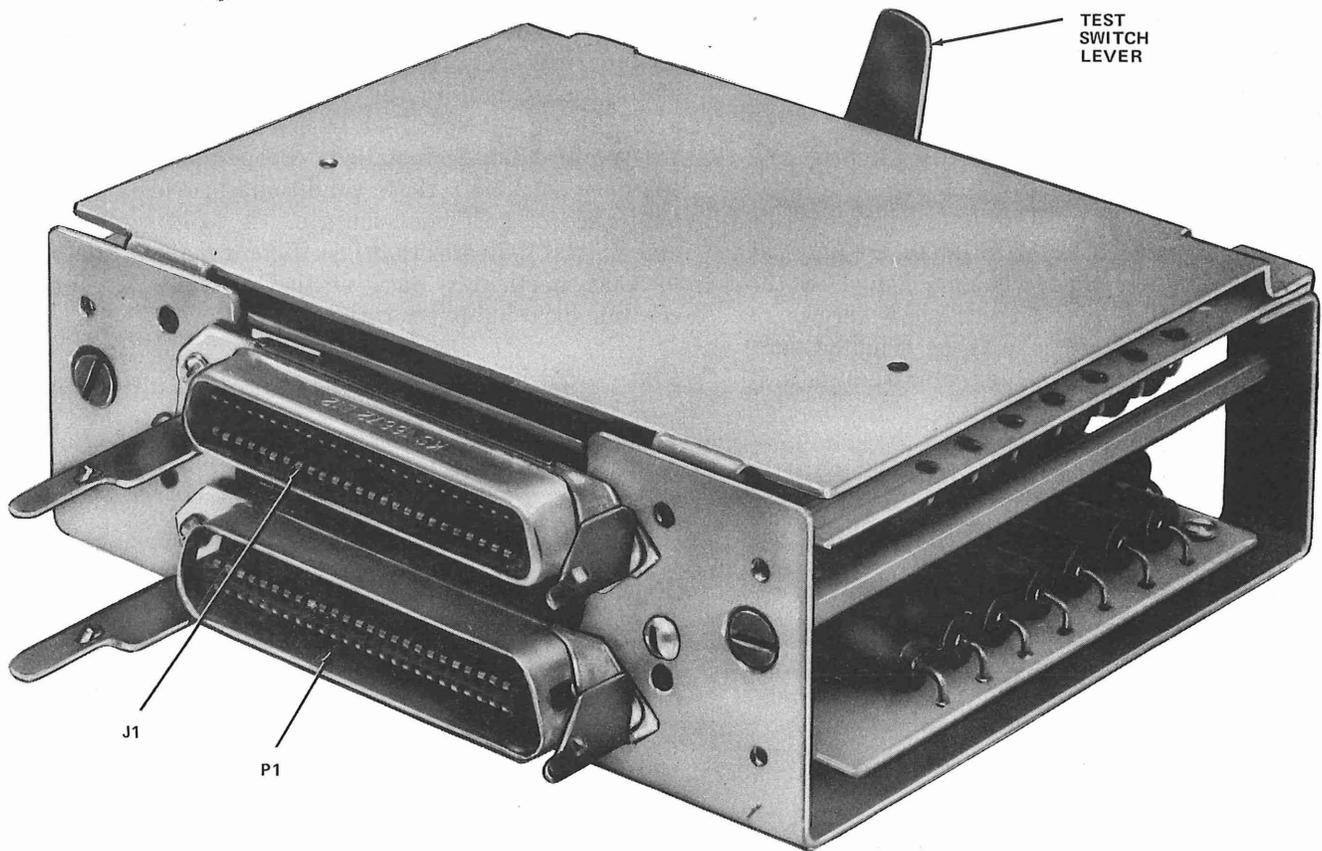

Fig. 2—330B Adapter
2.03 The 330B adapter (Fig. 2) consists of two printed wiring boards on which are mounted 42 resistors and 9 capacitors; electrically, these equal eight 330A adapters. The 330B adapter (comcode 103 161 923) is used for multiple data set installations. The adapter is equipped with two 50-pin connectors, one for connection to an RJ21X multiple-line voice jack, and the other to the P1 plug of the 40A-type data mounting or to the P6 connector of the five-set adapter, KS-21253.